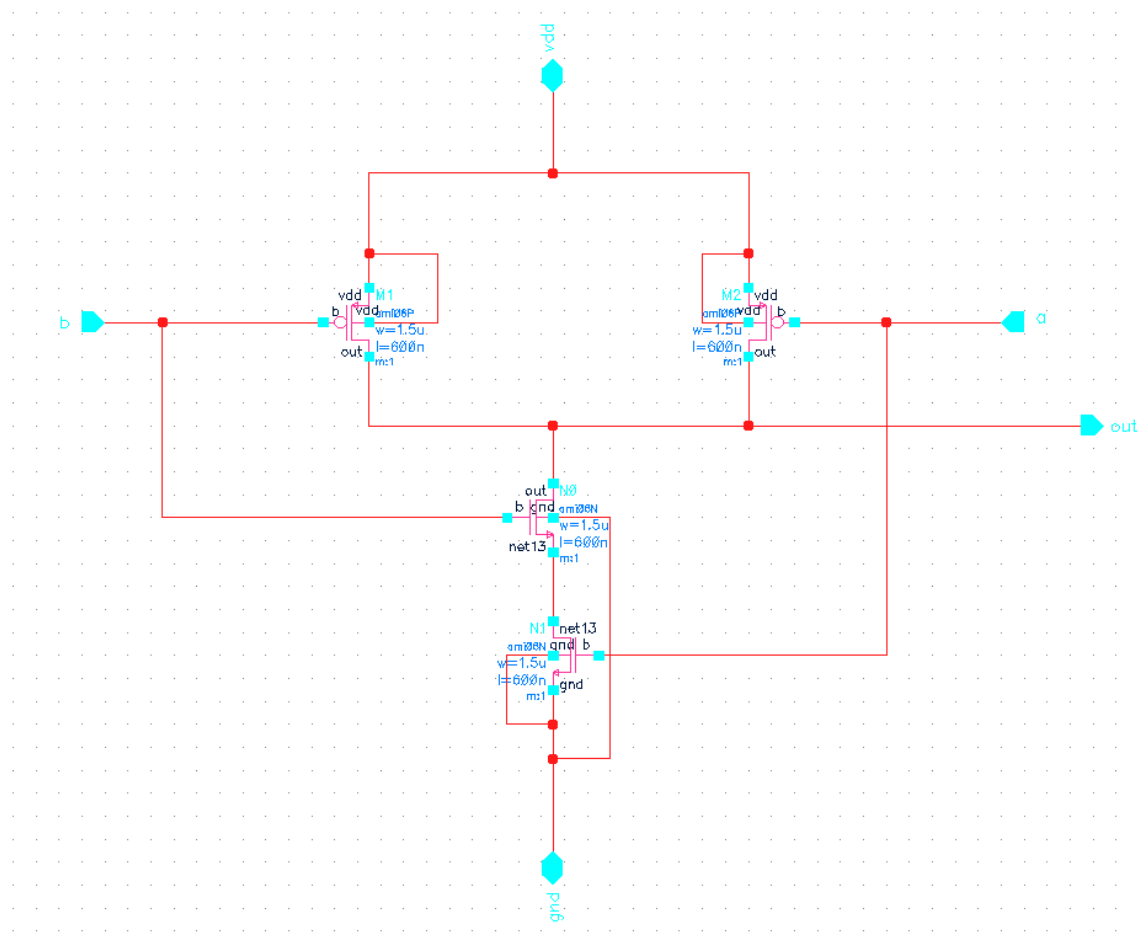
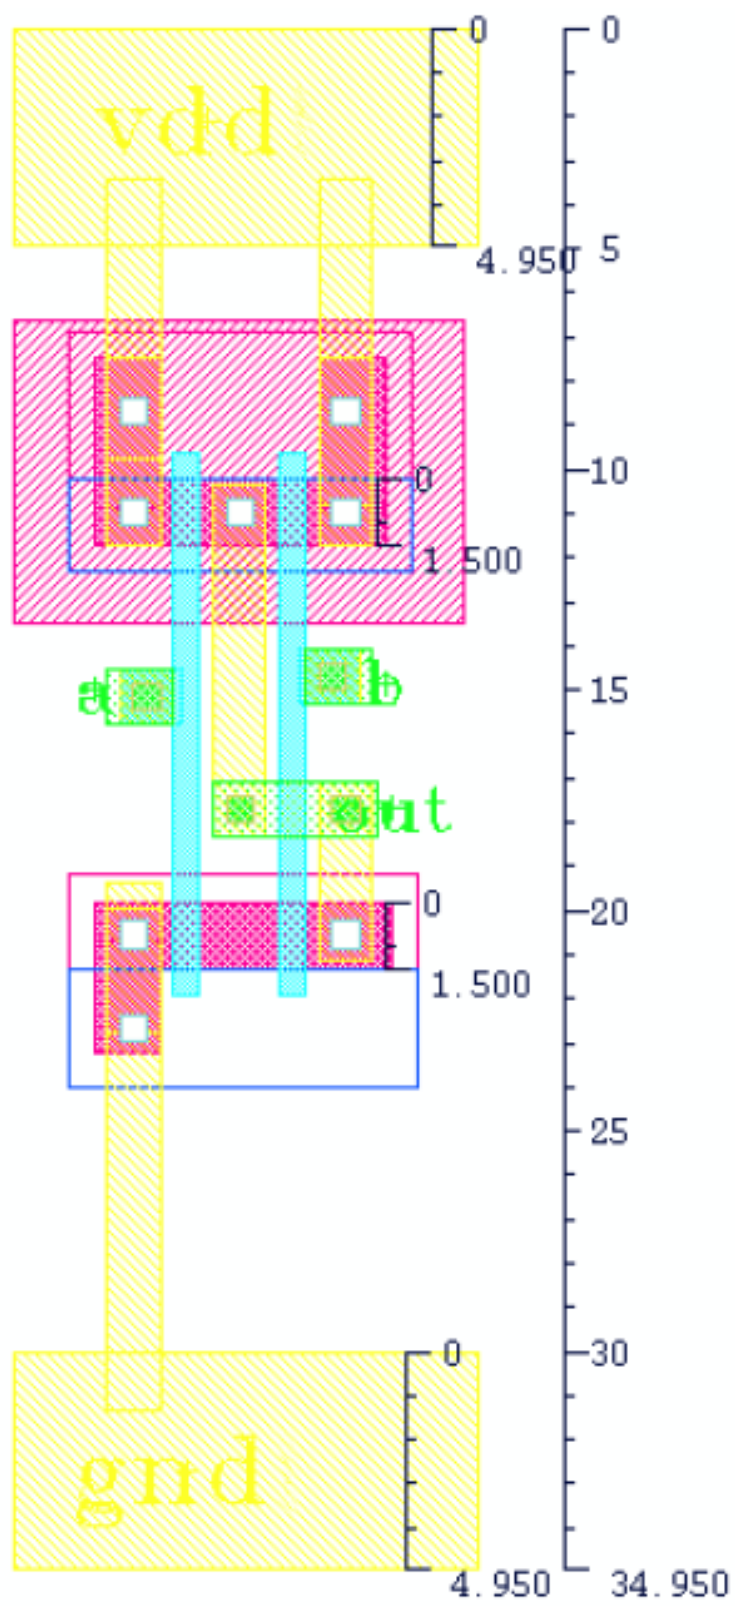

Figure 1: A schematic illustration of the *Nand* gate.
Figure 2: A layout illustration of the *Nand* gate.
1. Design a two input **Nand** gate, where the inputs are labeled **a** and **b**, and the output is labeled **out**. Make sure the total cell height is 35um for standard cell design. Choose **Vdd** and **Gnd** with width of 5um. Draw the Schematic and Layout of **Nand** Gate as shown in Figure 1 and Figure 2, respectively.